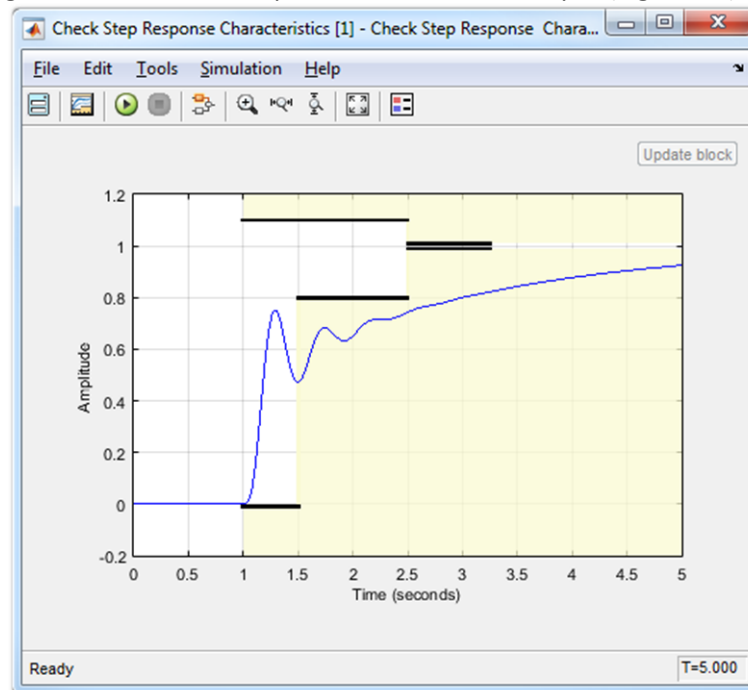

Figure 47 - Examining controller performance versus desired response
1. Open up the block 'Check Step Response Characteristics' and click the play button. This will run the simulation again, and examine the plot of the feedback output (Figure 47).
Our desired response behavior is depicted by the white back-ground in Figure 47. Our objective is to tune our controller to ensure that it reaches our desired set-point faster by staying in the white region. If the response of the system falls outside the white region it may over-shoot too much or track the desired reference point too slowly. The darkened area in the plot depict “forbidden” zones. Our desired
2. Examine that with the current PID values have clearly failed to meet our performance objectives as shown in Figure 47. The actual output passes through the darkened region and is out of bounds.